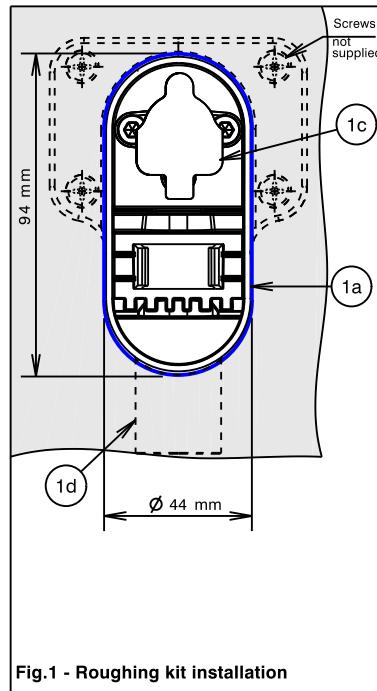

Fig.1 - Roughing kit installation
- 1) Fit the housing (1a) onto a noggin in the wall and secure using 4 screws (not supplied) through the holes, **Fig. 1**. Before tightening, horizontal alignment must be checked by using the flat face on the top of the housing (1a).
- * The wall/tile cut-out must be Ø44 x 94mm to ensure enough sealing surface for cover plate (10), **Fig. 1**.